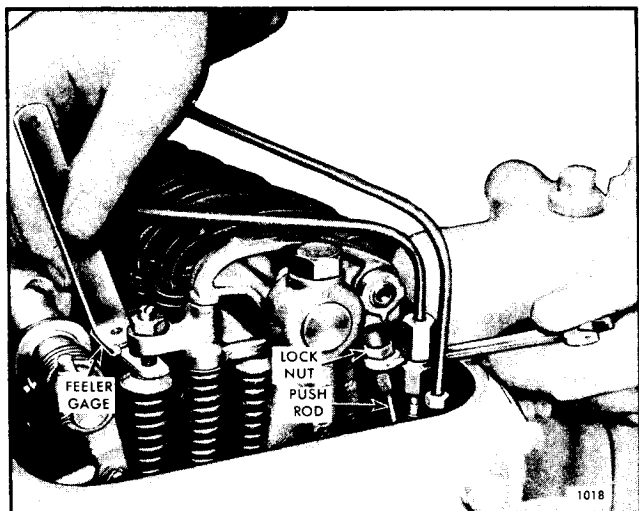

Fig. 3 - Adjusting Exhaust Valve Clearance
5. Place a .016 " feeler gage (J 9708-01) between the end of the valve stem and the valve bridge adjustment screw (spring-loaded bridge only) or between the valve bridge and the valve rocker arm pallet (unloaded bridge only) -- see Figs. 3 and 4. Adjust the push rod to obtain a smooth pull on the feeler gage.